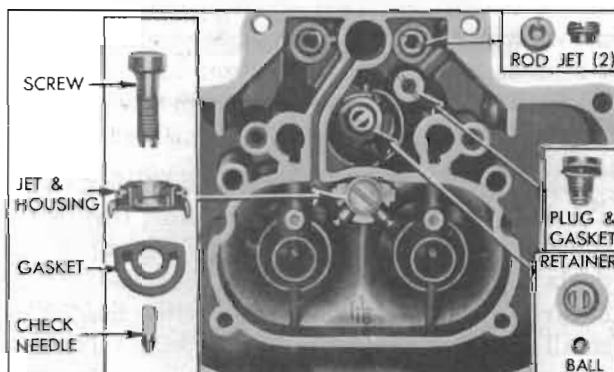

Figure 3-32—Parts in Main Body
10. Remove vacuum piston spring, pump plunger assembly and lower pump spring from cylinders in main body. See figure 3-32.
11. Remove screw, jet and housing assembly, gasket, and pump check needle from main body. See figure 3-32.
12. Remove both metering rod jets, and the pump relief plug and gasket from bottom of bowl in main body. See figure 3-32.
13. Use a thin screw driver or a stiff wire having a short hook on one end to remove the pump intake check ball retainer. See figure 3-32.
10. Install pump relief plug and gasket in bowl of main body and install both metering rod jets. Jets must be tightened firmly but not so tightly as to cause distortion. See figure 3-32.
11. Place pump check needle, *tapered end downward*, in passage in main body, then install gasket, pump jet and housing assembly, and attaching screw. See figure 3-32.